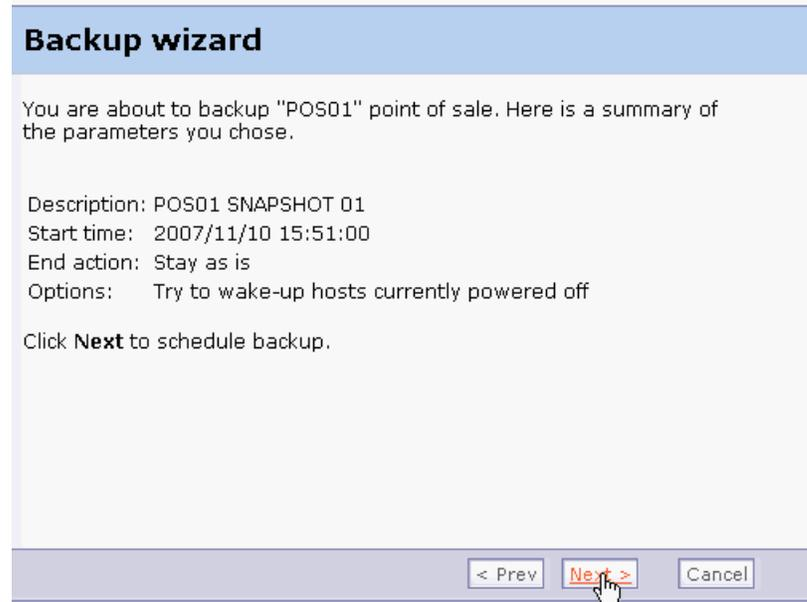

Figure 5-12 Confirming the backup options
5. Finally, the wizard displays a summary of the options selected. Confirm that the options are correct and then click **Next** to schedule the backup and dismiss the wizard (Figure 5-12 on page 109).